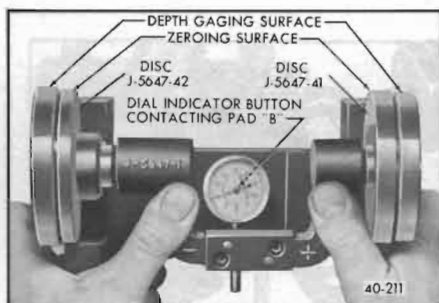

Figure 40-170—Zeroing Pinion Setting Gauge
4. Install the small ball tipped contact button on the stem of the dial indicator and mount the dial indicator on the indicator gage. Install the discs on the indicator gage as shown in Figure 40-170.